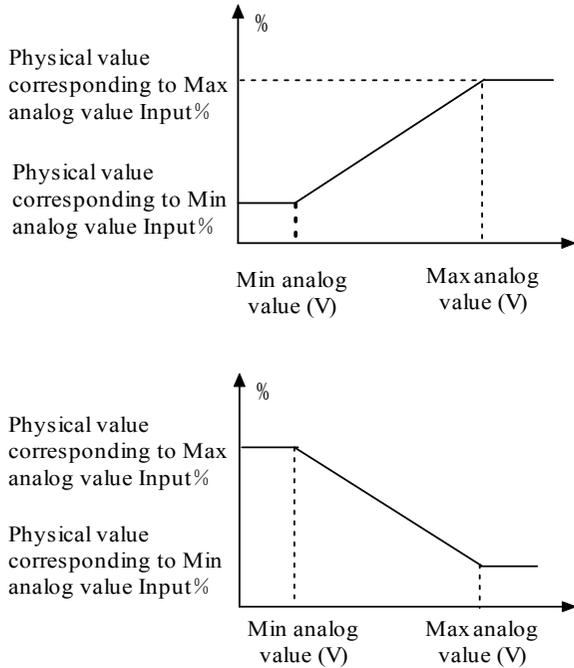

Figure. 5-4-1 Analog input linear curve
- ◆ Through setting P4.01 ~ P4.04 and P4.11 ~ P4.14 users can define two characteristic linear curves. The positive and negative function is shown in Figure.5-4-1.